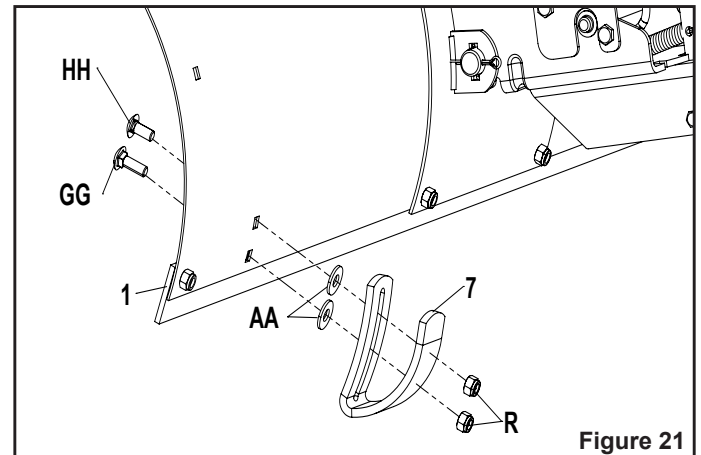

Figure 20
- Loosen the jam nut (MM) so it sits onto the thin cable.
- Do not tighten the jam nuts (MM).
STEP 20: (SEE FIGURE 20)
- Insert the cable fitting on the trigger & lift cable assy (6) into the latch (II) as shown below.
- Tighten the jams nuts (MM) from step 19.